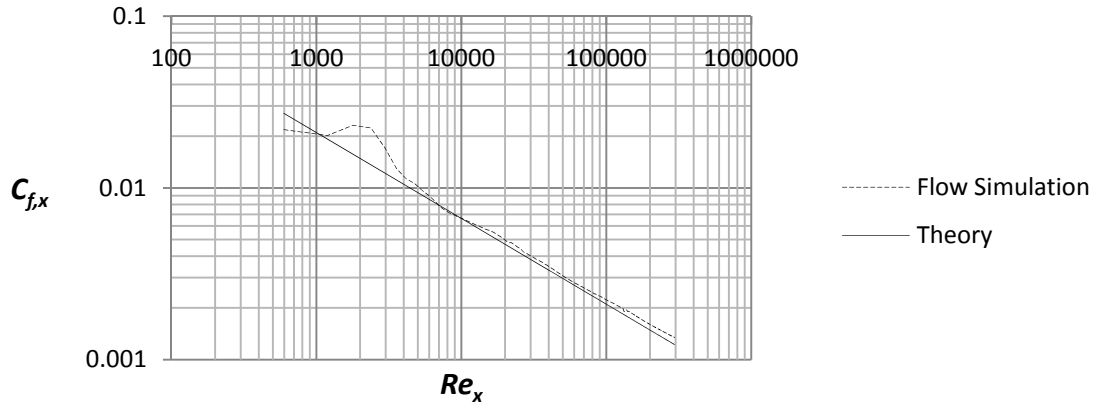

Figure 2.26 Local friction coefficient as a function of the Reynolds number
Place the file “**xy-plot figure 2.26**” into the **Local Disk (C:)/Program Files /SolidWorks (2)/SolidWorks Flow Simulation/lang/english/template/XY-Plots** folder to make it available in the **Template** list. Repeat step 24 but this time choose the sketch **x = 0 – 0.9 m**, uncheck the box for **X-Velocity** and check the box for **Shear Stress**. Rename the xy-plot to **Local Friction Coefficient**. An Excel file will open with a graph of the local friction coefficient versus the Reynolds number compared with theoretical values for laminar boundary layer flow.